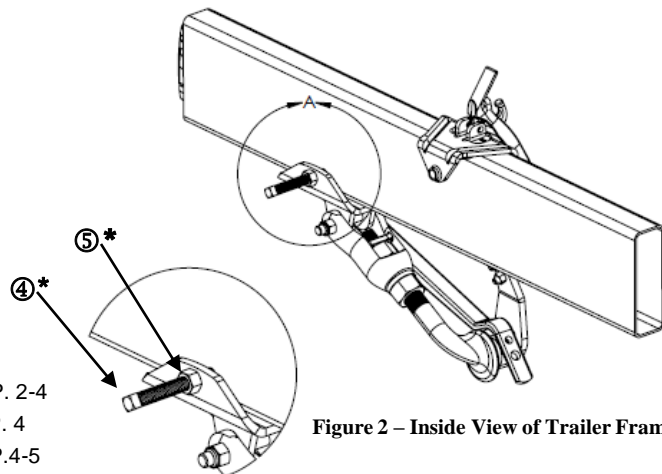

Figure 2 – Inside View of Trailer Frame
- Position the Chain Hanger temporarily above the cam arm. (Upon hook-up, the Hanger position must be adjusted to be sure the chain is vertical before towing). Tighten the Chain Hanger bolt shown in figure 2 against the frame.